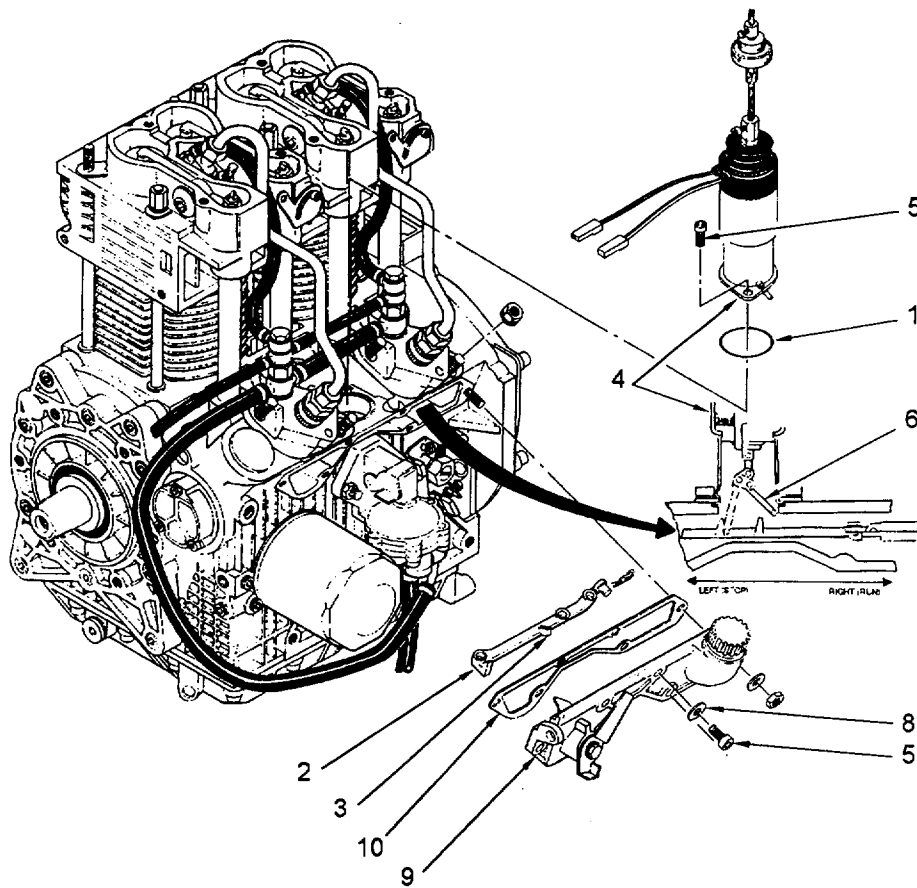

Figure 6-48. Fuel Flow Solenoid Installation
6.4.24 Install Fuel Flow Solenoid. (Refer to figure 6-48.)